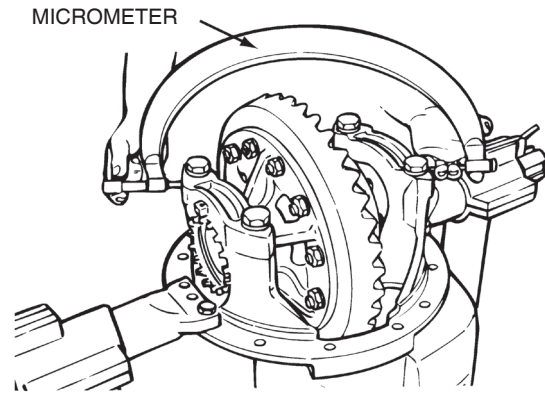
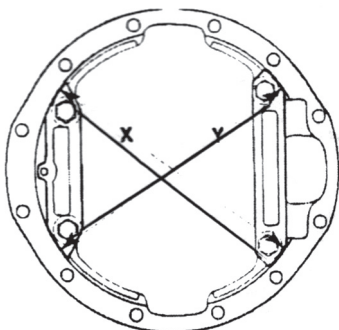

Figure 5.41
Figure 5.40
2. Use a large micrometer to measure distance X and Y between the opposite surfaces of the bearing caps. Record the measurement. Figure 5.40 and Figure 5.41.